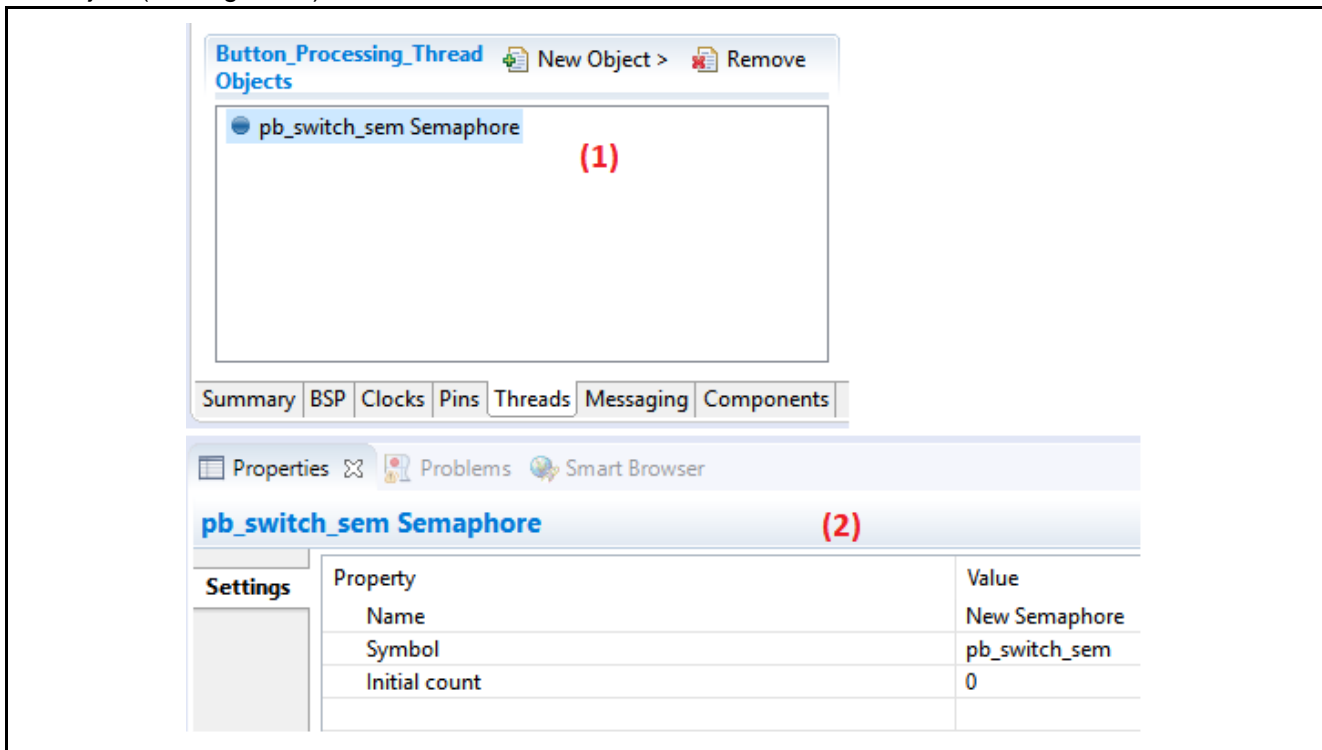

Figure 15. Button Thread Object Properties
- Click the **New Object** button in the **Button\_Processing\_Thread Objects** window. Create the thread object (see Figure 15).